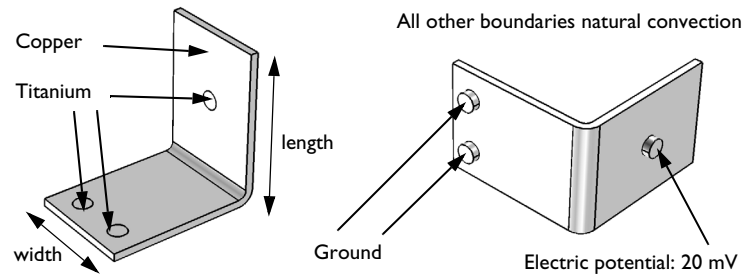

Figure 2: Material and boundary settings in the model.
4 On the object **fin**, select Boundaries 8 and 15 only. These are the bolt faces labeled with Ground in Figure 2.
- 4 On the object **fin**, select Boundary 31 only. This is the bolt face labeled with Electric potential in Figure 2.